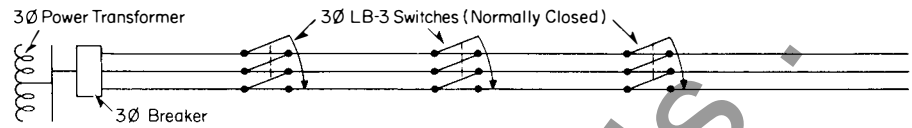

Figure 1
**Line Sectionalizing:** The LB-3 is ideal for use in sectionalizing radial express feeders. Utilities vary sectionalizing point locations between the ranges of one switch per every several spans to several miles of feeder (Figure 1).